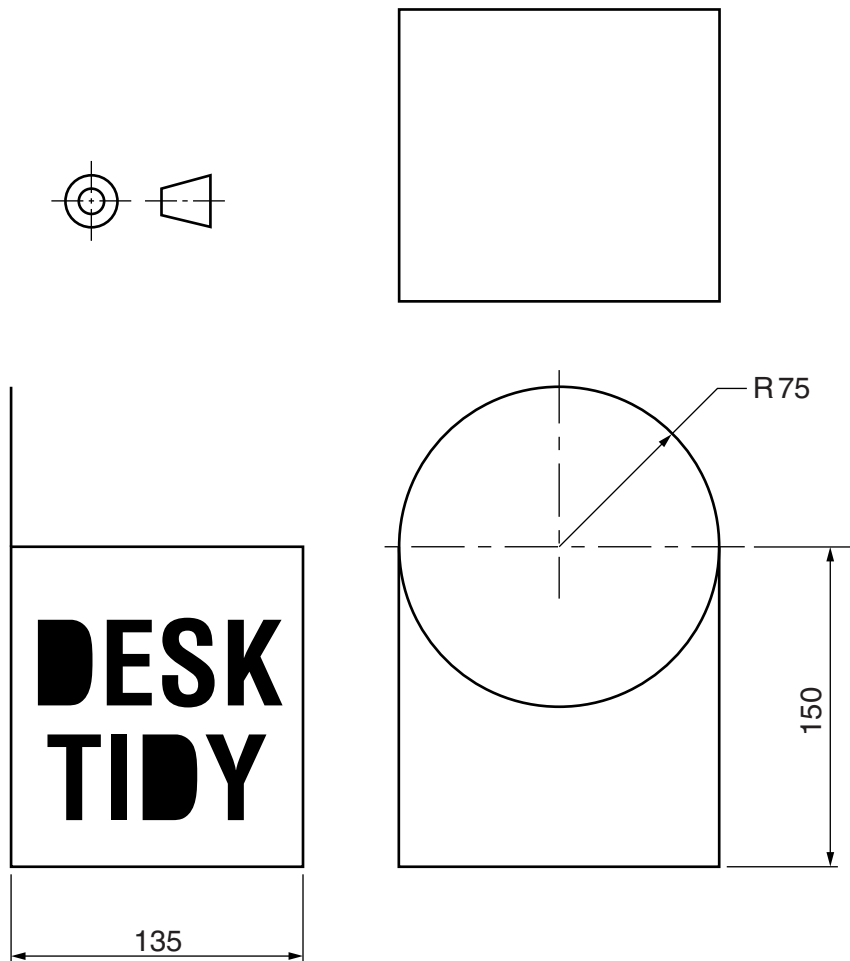

Fig. 2
- 2 Fig. 2 shows a desk tidy which is to be made in a school workshop.